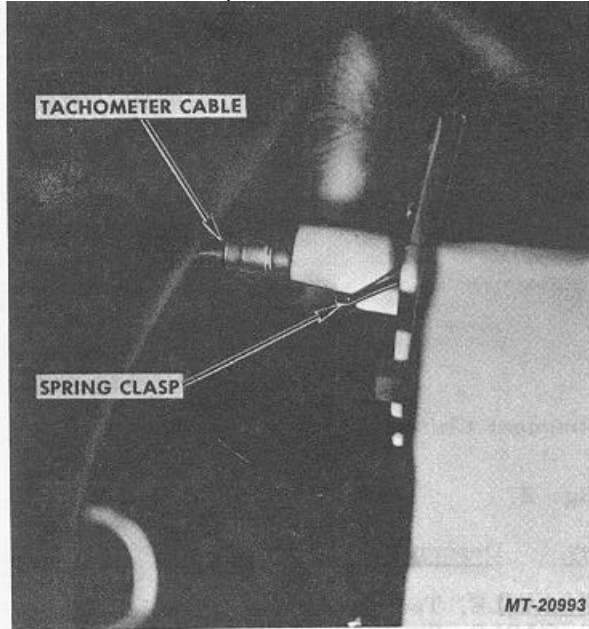

Fig. 4 Releasing Speedometer and Tachometer Cable
4. Press down on quick-connect spring clasp (Fig. 4) and disconnect flexible cables from back of speedometer and tachometer.
2. Depress spring clasp on back of speedometer or tachometer and release cable (Fig. 4).